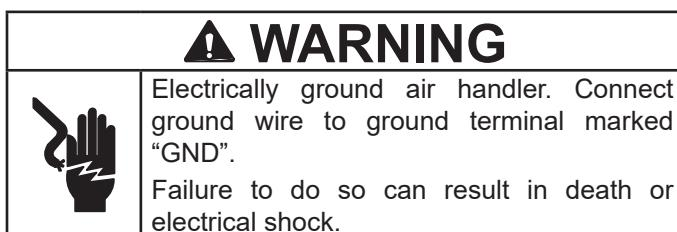
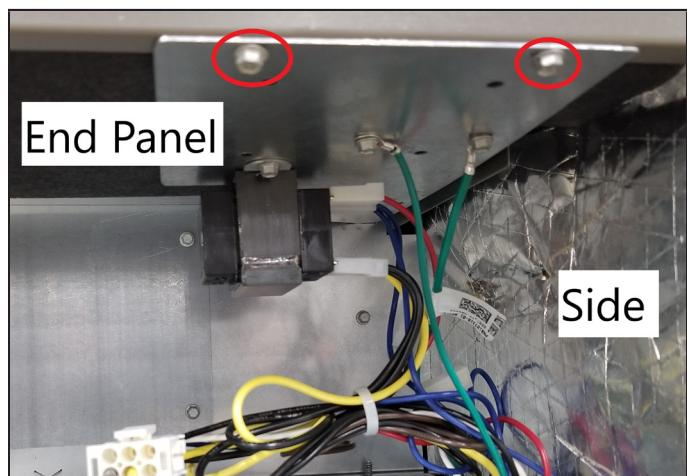

FIGURE 18. Notch for Control Panel Relocation
FIGURE 19. Control Panel Relocated to End Panel (Horizontal-Right Configuration)
To avoid the possibility of moisture damage to the control in some right-hand discharge configurations, the control panel can be relocated to the end panel as shown in figure 19.
- 2 - Slide the control panel into the notch on the electric heat mounting panel (figure 18). Using the screws removed in Step 1, secure the control panel to the end panel, as shown in figure 19.